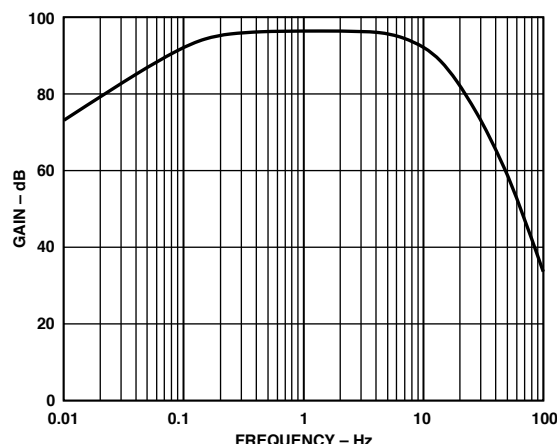

Figure 8. 0.1 Hz to 10 Hz Peak-to-Peak Voltage Noise Test Circuit Frequency Response
- The test time to measure 0.1 Hz to 10 Hz noise should not exceed 10 seconds. As shown in the noise-tester frequency-response curve of Figure 8, the 0.1 Hz corner is defined by only one pole. The test time of 10 seconds acts as an additional pole to eliminate noise contribution from the frequency band below 0.1 Hz.